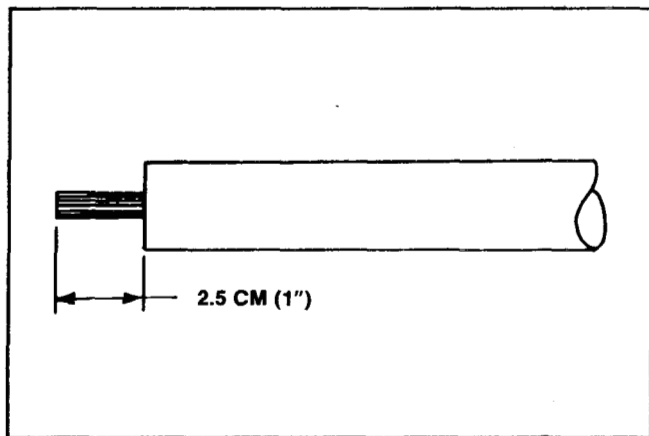

Figure 126
2. Before installing the gearbox make sure that the drive shaft is properly positioned in the drive tube. See Figure 126.